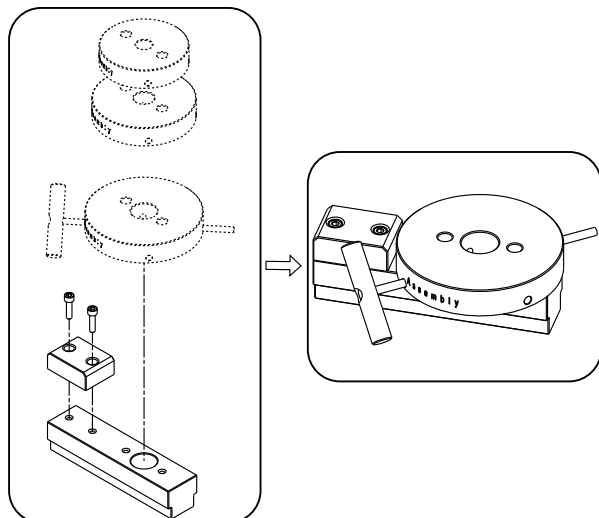

Fig. 17 Service tool H1
- Assemble service tool H1. See fig. 17.